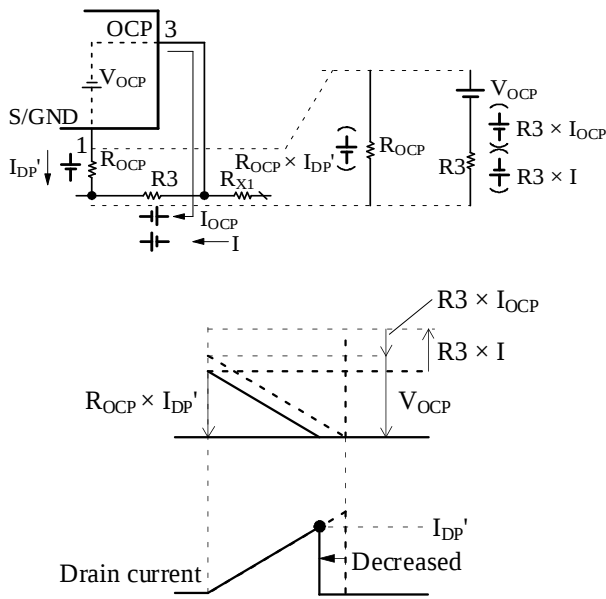

Figure 8-30. With OCP Input Compensation Function
When V_{ROCP}' with reference to the S/GND pin becomes equal to the sum of V_{OCP} , the voltage across R3 (i.e., $R3 \times I_{OCP}$), and $R3 \times I$, OCP is activated (see Figure 8-30).
The peak drain current during OCP operation with OCP input compensation circuit, $I_{DP(OCP)}'$, is expressed by Equation (11) obtained from Figure 8-30: